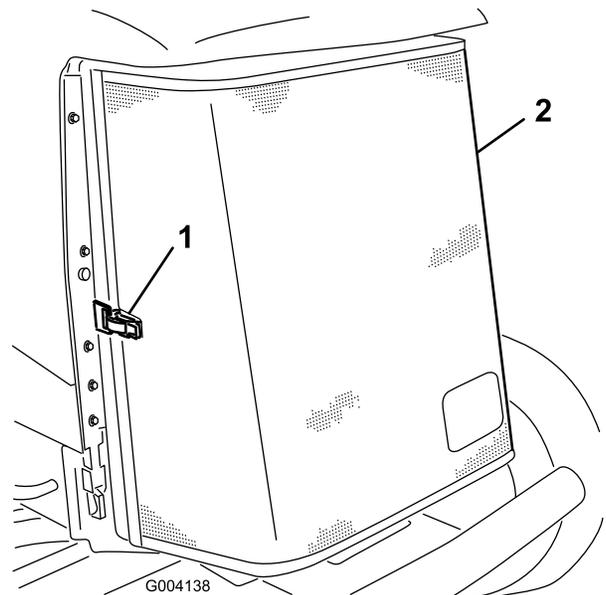

Figure 91
3. Unlatch the clamp and pivot open the rear screen (Figure 91).